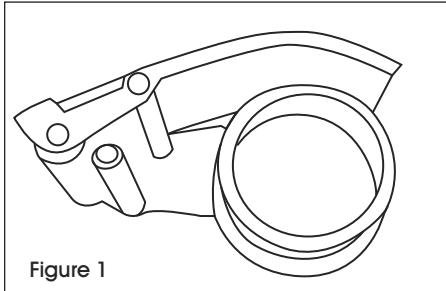

Figure 1
1. Place dispenser on flat surface. (See Figure 1)